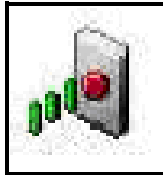

Figure 52: Infrared Icon in System Tray
- Click on the *Infrared* icon in the System Tray of your PC, as shown in Figure 52 below.